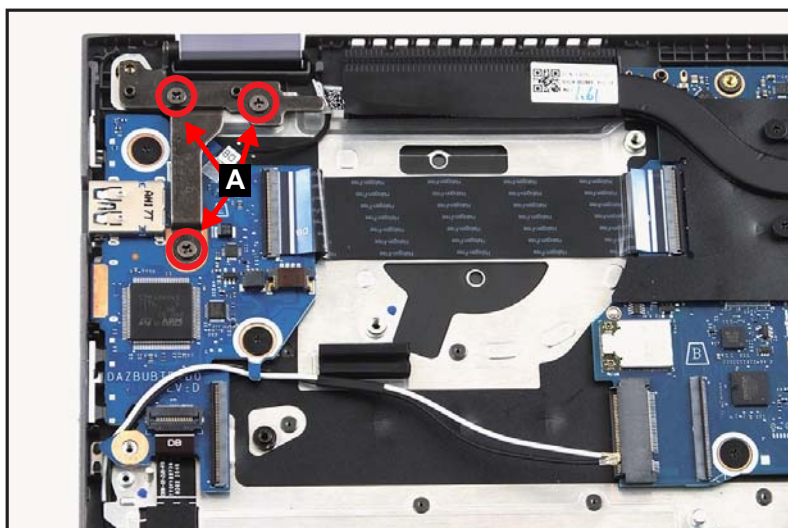

Figure 1-23. USB Board Removal
1. Remove three (3) screws (A) securing the left side of LCD hinge in place (Figure 1-23).